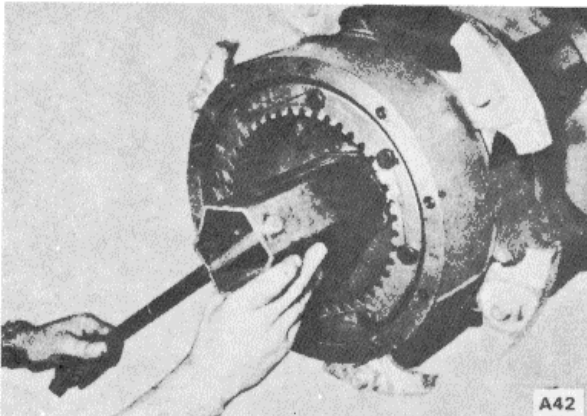

Figure 9C-4. Removing Nut Lock
5. Remove internal gear and hub assembly, Figure 9C-5